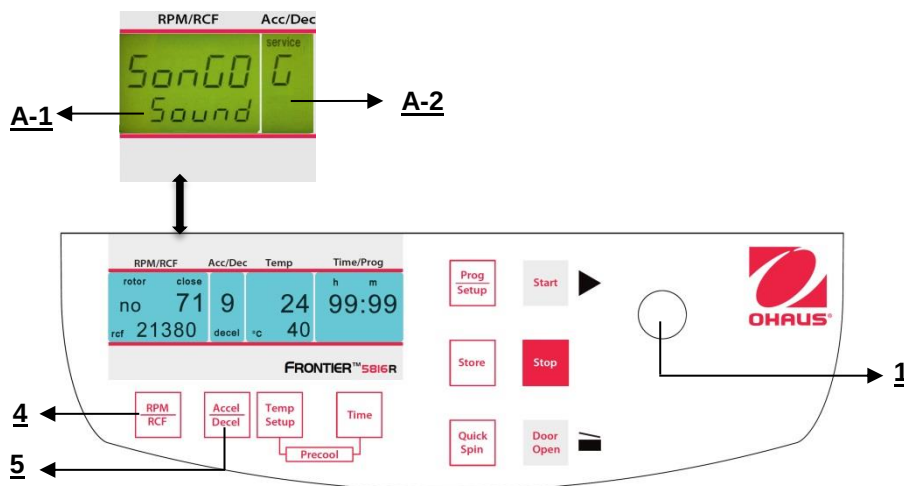

Figure. 34
Proceed as described under point 4.1.1 to enter this program mode and then press the key "**Accel/Decel**" (5). In the display "**Acc/Dec**" (A-2) the word "**Service**" flashes. Now select the letter "**G**", with the adjusting knob (1). As a result, in the display "**RPM | RCF**" (A-1), the word "**SonGo/Sound**" appears. After pressing the key "**RPM | RCF**" (4), you can select a song with the adjusting knob (1). (See figure 34).